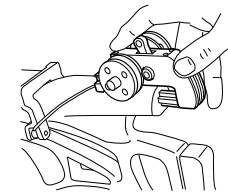

Figure 16
- 6.3 Mount the cocking winch to the stock by inserting the “+” shaped mounting rod into the corresponding slot located in the rear of the stock comb (See Figure 16)